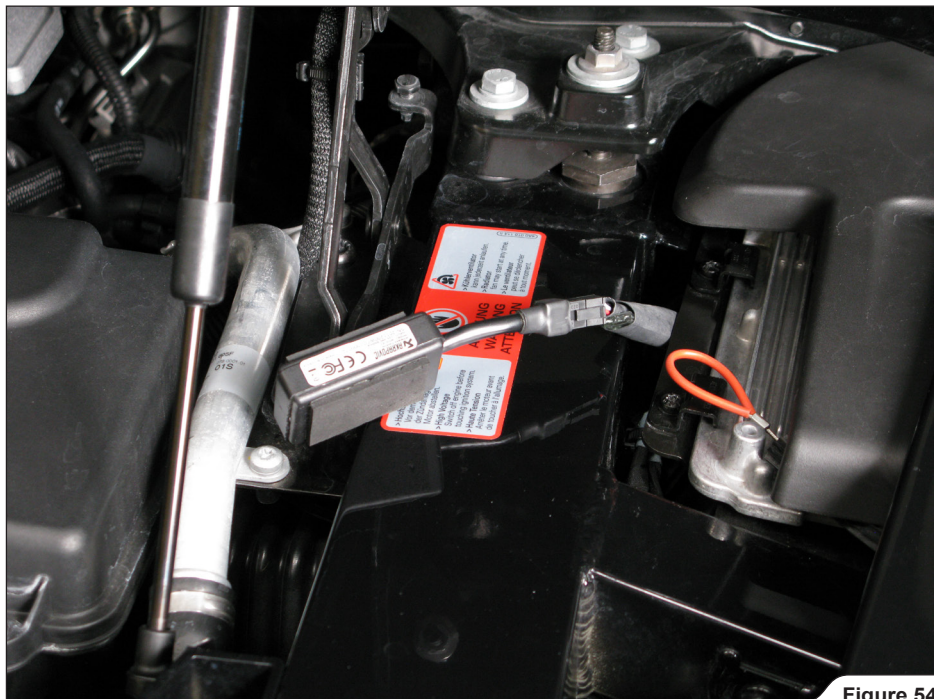

Figure 54
15. **For optional wireless kit only:** direct the Akrapovič wiring harness into the engine compartment and connect it to the transmitter (**Figure 54**).